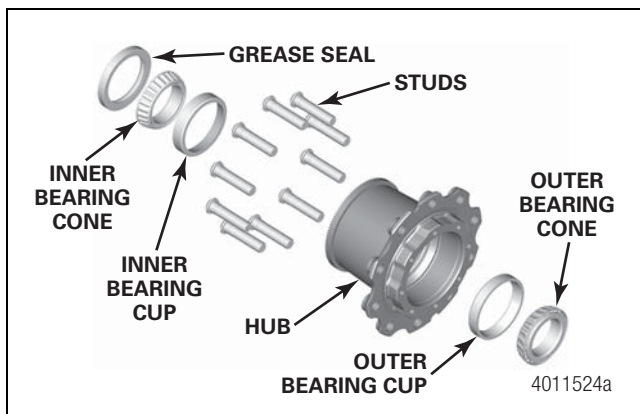

Figure 7.16
1. If the wheel studs were removed from the hub, put the hub in a press with the drum side at the BOTTOM. Figure 7.16.
4. Install the outer bearing cone onto the spindle and push it into its cup inside the hub. Figure 7.16.